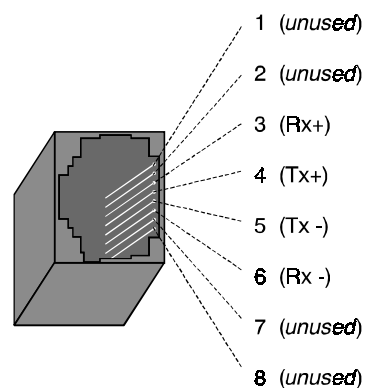

Figure 4
1. Modular jacks – for terminal equipment or patch panel connection via an 8 position modular phone cord. Connecting cords must be Category 3 or higher with T568 A or T568 B wiring. See Figure 4 and Table 1 for jack pin-out.